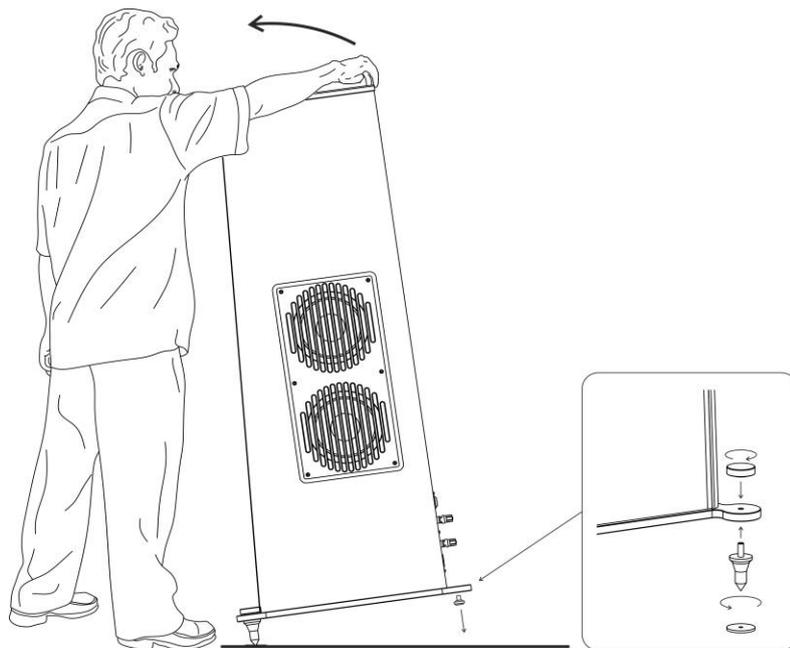

Fig. 6
- In the second step the rear spikes are fitted (Fig. 6).